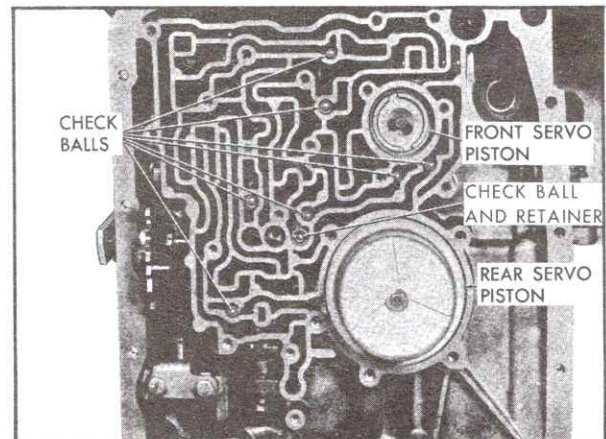

Fig. 7-201 Location of Check Balls
a. Install seven check balls in cored passages, Fig. 7-201.